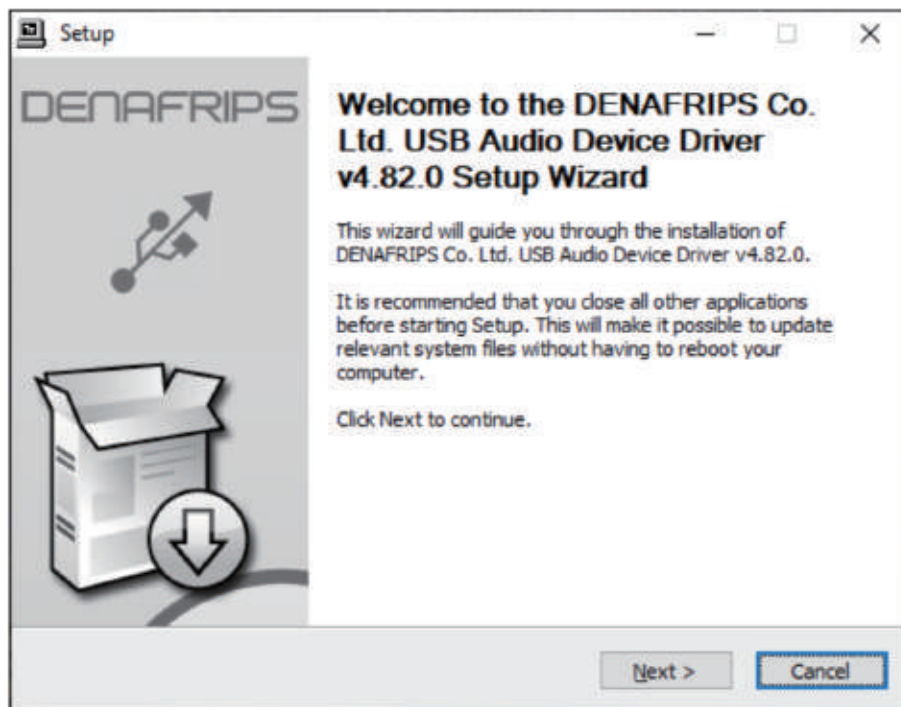

Figure 1. Welcome screen
STANDBY ( ① in the diagram) Standby power button: Press the standby power button, the standby indicator light in Figure 1 turns off, and the DAC starts operating; otherwise, the light turns on, indicating the DAC is in standby mode.